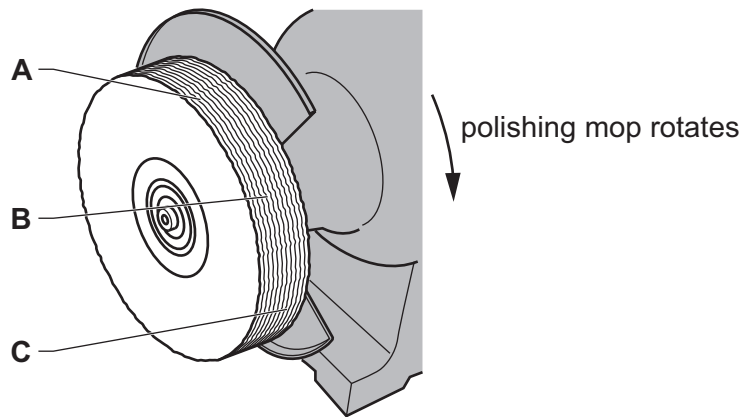

Fig. 13.3
- (iv) Fig. 13.3 shows a buffing wheel that could be used to polish the edges of the acrylic.